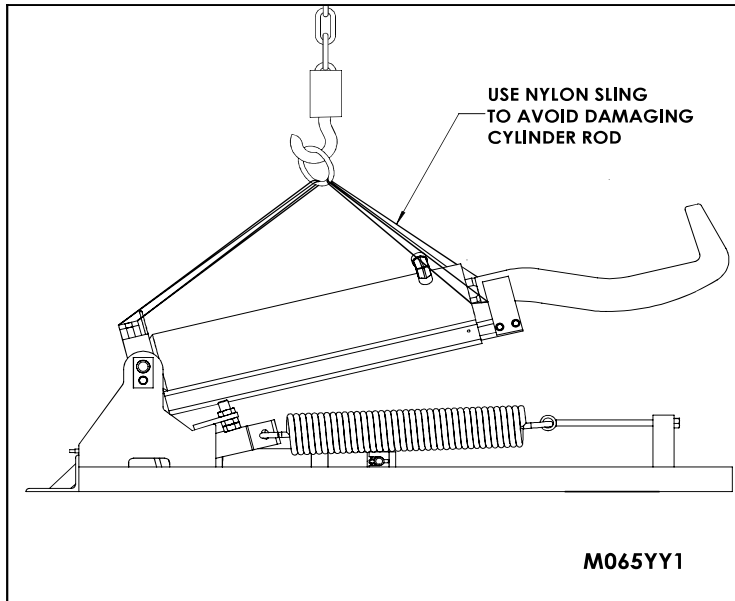

Figure 3: Slinging Unit
6. \_\_\_ Hoist the Ultrahook by slinging through the lifting point at the cylinder pivot and the hook(See Figure 3: Slinging Unit on page 8.)